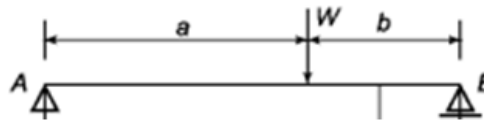

Figure 4
- (b) A simply supported beam of span L carries an eccentric concentrated load P as shown in Figure 4. Derive the general expressions for slope and deflection.